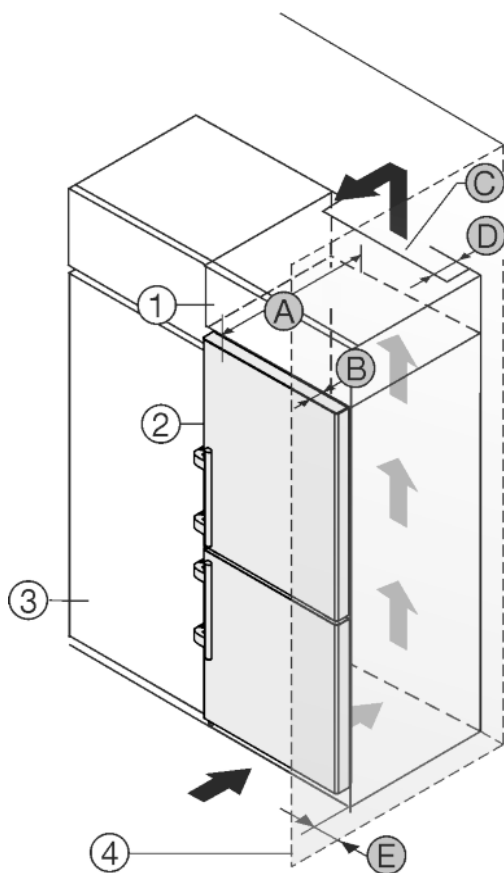

Fig. 13
The appliance can be built into kitchen units. A top cupboard *Fig. 13 (2)* can be added above the appliance in order to bring the appliance *Fig. 13 (1)* up to the height of the fitted kitchen units.
The appliance can be installed right next to the kitchen cabinet *Fig. 13 (3)*. The appliance must stick out by the depth *Fig. 13 (B)* from the front of the cabinet so that the doors can be opened fully. The appliance may protrude further depending on the depth of the kitchen cabinets and whether wall spacers are used.
- There must be a ventilation shaft with the depth *Fig. 13 (D)* at the back of the top cupboard over the entire width of the cupboard.
- The ventilation shaft *Fig. 13 (C)* must be observed under the ceiling.
If the appliance is installed with the hinges next to a wall *Fig. 13 (4)* the distance *Fig. 13 (E)* between the appliance and the wall must be observed. This is how far the handle protrudes when the door is open.